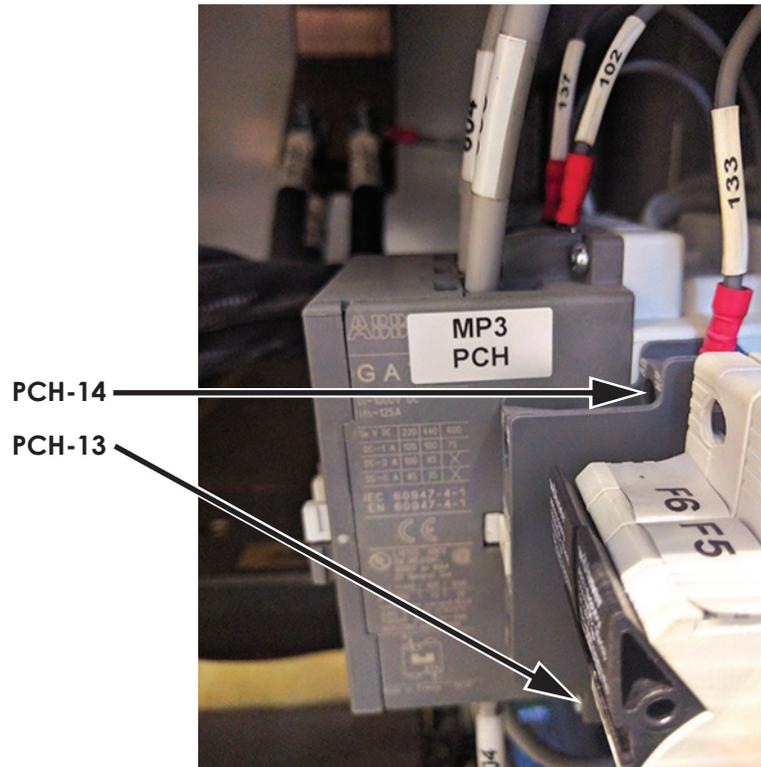

Figure 2: PCH 13 and PCH 14
- a. Remove wire 1x063 between 1xTB02-05 and PCH-13. See Figure 2.